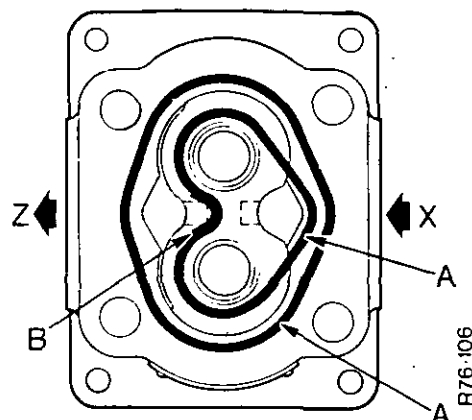

FIGURE 10. FITTING SEALS INTO THE PUMP FLANGE AND END COVER
2. Fit new sealing rings into the grooves in the pump flange and end cover. Fit the P.T.F.E. backup strip (see Figure 10.). If a backup strip was not fitted, fit one now.